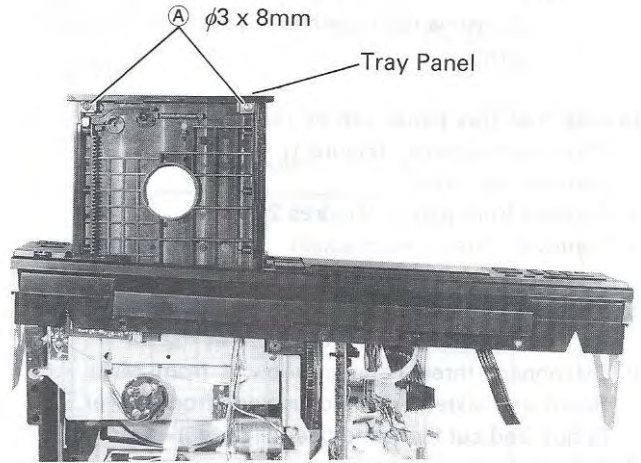

Figure 1
1. Remove tray panel. (Figure 1)
2. Remove two mounting screws (A) from tray panel, and the tray panel will be opened. (Figure 1)